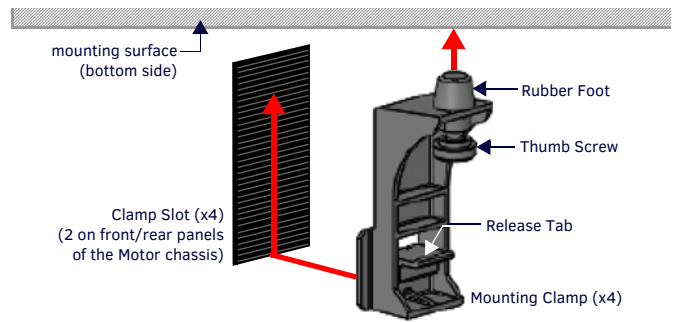

FIG. 8 CLAMP SLOTS AND SIDE CLAMP (X4)
- Insert each Mounting Clamp into a ratcheted Clamp Slot from the bottom, and slide each clamp up as far as possible, until the rubber foot on each Clamp contacts the underside of the mounting surface (see FIG. 8).